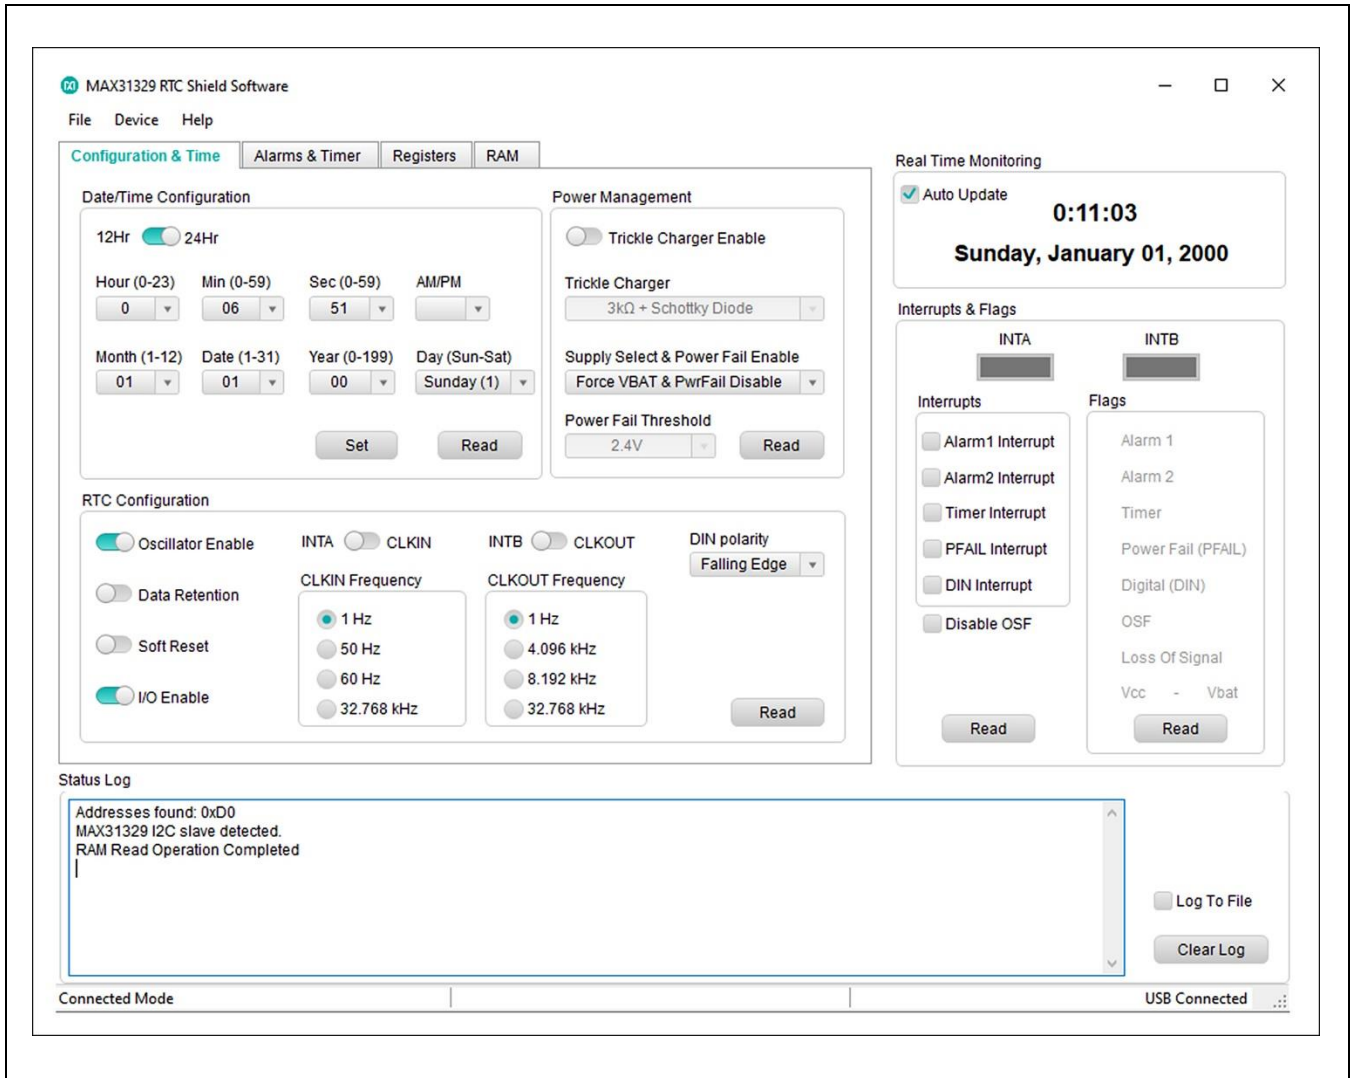

Figure 2. MAX31329 RTC Shield Software—Configuration and Time Page
6. Open the MAX31329 RTC SHIELD Software, as shown in Figure 2.
- 3) On the **Configuration and Time** tab, in the **RTC Configuration** group box, make sure CLKOUT Frequency is 1Hz selected. In the **Real Time Monitoring** group box, uncheck the **Auto Update** check box as shown in Figure 2.
- 4) Under **Power Management**, in the **Supply Select and Fail Enable** group box, select **Force VBAT and PWR Fail Disable** as shown in Figure 2.